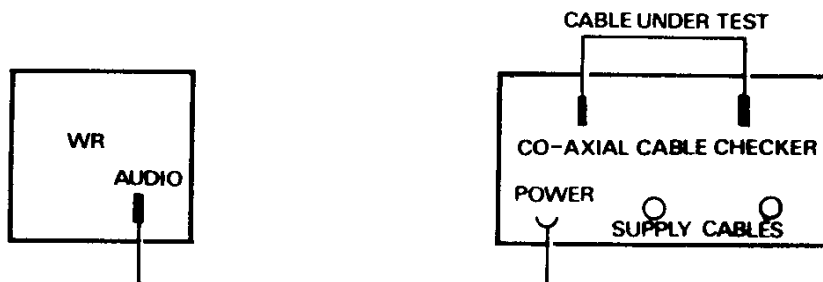

Fig 77.—Coaxial Cable Check
- a. Connect the equipment as shown in *Fig 77*.